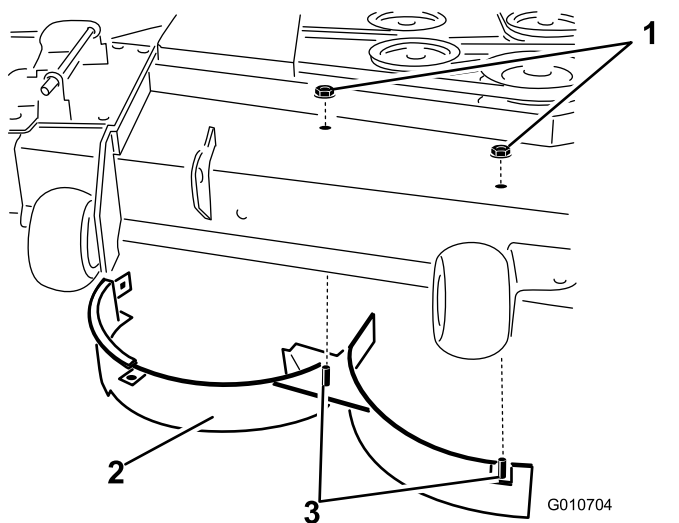

Figure 14
8. Remove the 2 locknuts (5/16 inch) to securing the welded posts of the right baffle to the top of the mower deck at the center and right of center positions (Figure 14).